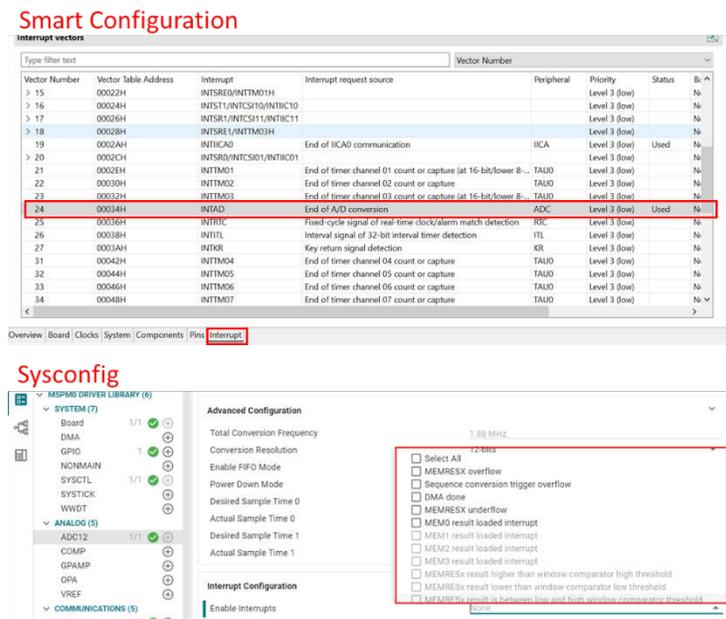

Figure 2-6. Comparison of Interrupt Settings
- Smart Configuration interrupts and pin settings are in a separate module, which is cluttered and not conducive to development. TI's SysConfig can be configured directly in specific peripheral modules, which makes development easy and clear. The comparison of interrupt settings is shown in Figure 2-6. SysConfig can realize multiple peripheral linkage configurations, such as Event configuration in ADC module.